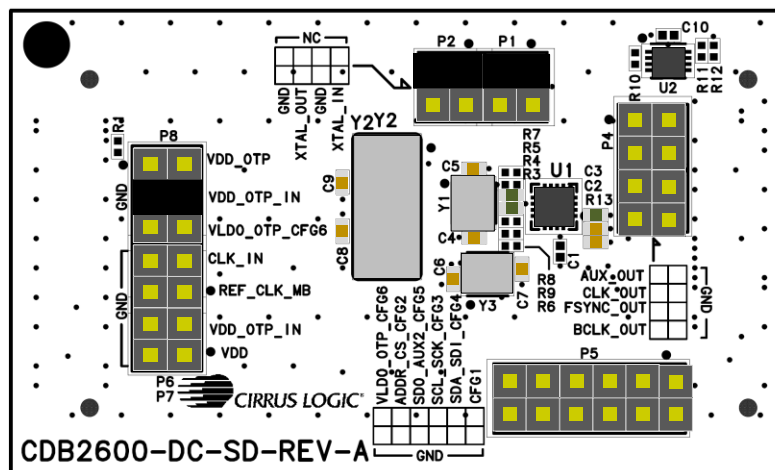

Figure 17: Daughter Card with Crystal Y1 Reference Clock Option (R3 and R4)
- The 12 MHz crystal Y1 on the daughter card is the default REF_CLK source. The part number of the crystal is *NX3225SA-12.000M-STD-CRS-2* (SMD/SMT crystal); further information can be found in the crystal datasheet. The daughter card configuration (default) is R3, R4 populated (0 Ω); R5, R6, R7, R8, R9 non-populated. The configuration is illustrated in Figure 17 for CDB2600-DC-SD; the same is applicable for CDB250X-DC-SD.